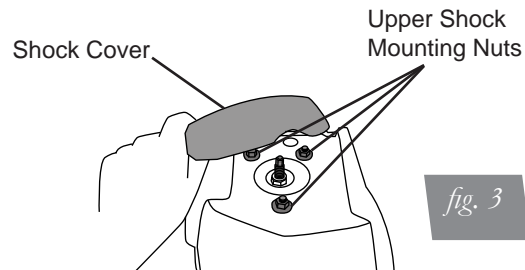

fig. 3
2. Locate the shock cover under the hood of the car (fig. 3).